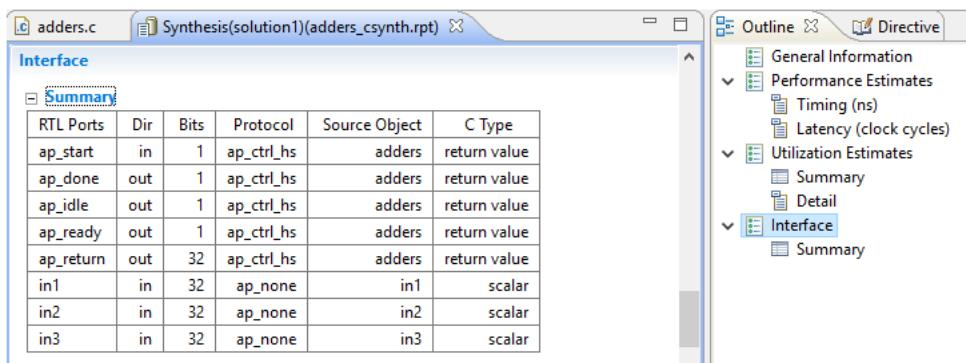

Figure 4-4: Interface Summary
The Interface summary and Outline tab are shown in Figure 4-4.
- Input ports In1, In2, and In3 are 32-bit inputs and have the I/O protocol ap_none (as specified by the directives in Figure 4-4).